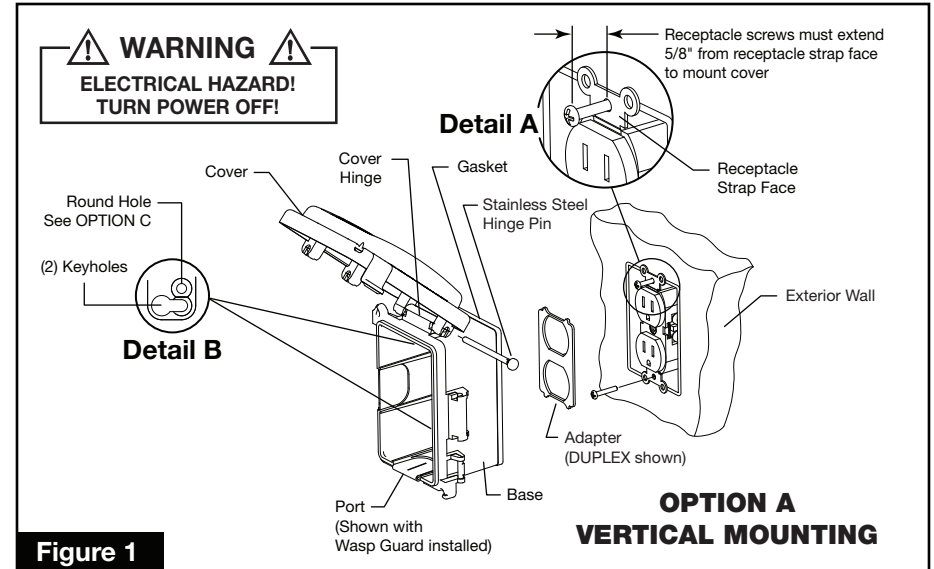
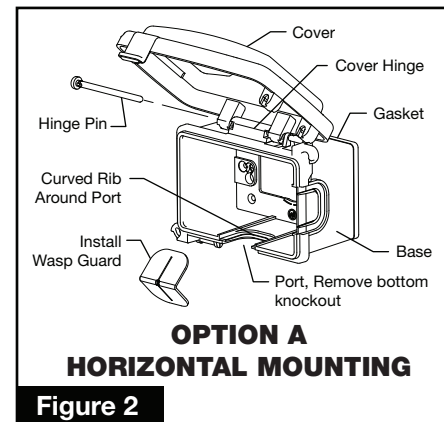

Figure 1
Figure 2
- 2. INSTALL WASP GUARD.** Determine desired mounting (Figures 1 & 2). Remove (break-out) knockout from bottom PORT of base using pliers. Remove protective backing from adhesive side of rubber WASP GUARD. Position and place adhesive side on outside of curved rib in open PORT. Carefully fold WASP GUARD along top surface and secure to inside of curved rib in open PORT (see Figure 1, 2 & 3).
- 3. DETERMINE DESIRED ADAPTER.** SWITCH: use either Round/Switch Adapter. ROUND RECEPTACLE: Select Round 1-3/8" or 1-9/16" Adapter and remove inner circle. If 1-9/16" Round receptacle is used, break-away and trim curved sections from BASE. GFCI: no adapter is needed. DUPLEX: use Duplex Adapter (Figures 1 & 4).
Use for Flush Mount and Wet Locations Box installations. Attach BASE using receptacle screws. Vertical Mounting (Figure 1) or Horizontal Mounting (Figure 2).
NOTE: Position BASE with COVER HINGE on top and open PORT on bottom. Attach receptacle to box by loosely inserting the receptacle screws into the box. Thread screws until heads extend 5/8" from receptacle strap face (Figure 1, Detail A). Push adapter pin(s) into receptacle or switch (Figures 4 & 5). Place BASE keyholes over receptacle/ or /switch screws (Figure 1, Detail B). Make certain gasket overlaps box edges and tighten screws to secure BASE.
Verify GFCI is securely fastened to box. Insert (2) screws (furnished) through top and bottom ROUND holes (Figure 1, Detail B) in BASE into threaded holes in GFCI. Make certain gasket overlaps box edges and tighten screws to secure BASE. See steps 5, 6 & 7.